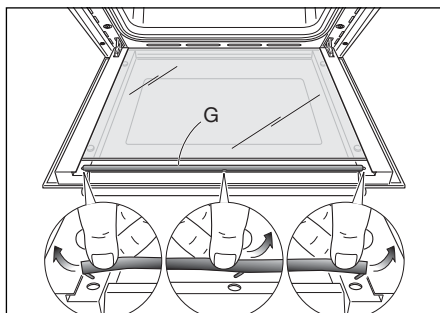

Fig.40d
- Remove the seal "G" by unhooking the three fixing hooks (Fig. 40d).